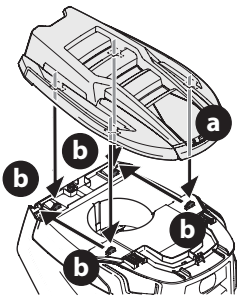

Fig. 7
1. To install the snap-on hood topper (a), line up the holes on the hood topper (a) with the tabs (b) in the hood frame (Fig. 7).